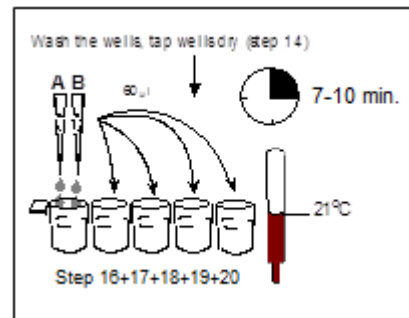

Fig. 6 Substrate procedure
16. Add 60 μ L of substrate A to each well. (see fig. 6)